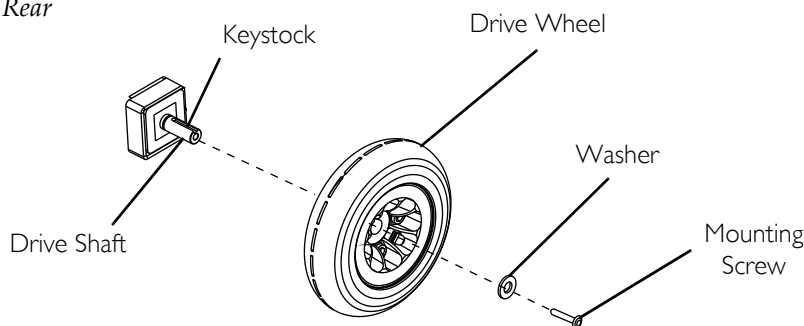

FIGURE 10.1 Removing/Installing the Drive Wheels
NOTE: For this procedure, refer to FIGURE 10.1 on page 27.
1. Place keystone in cutout on drive shaft as shown in FIGURE 10.1.